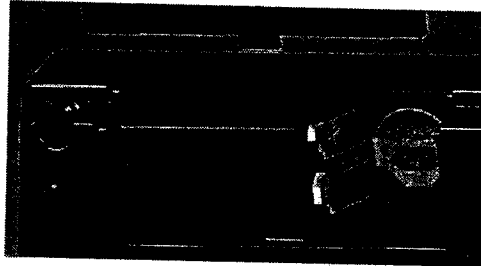

Figure 7: Battery Installation and Replacement
1. Push and slide the cover of the battery compartment out, as shown in Figure 7.